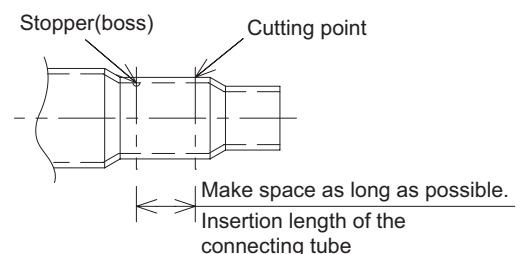

Fig. 2-266
- Cut off as far away from stopper as possible. (Fig. 2-266)